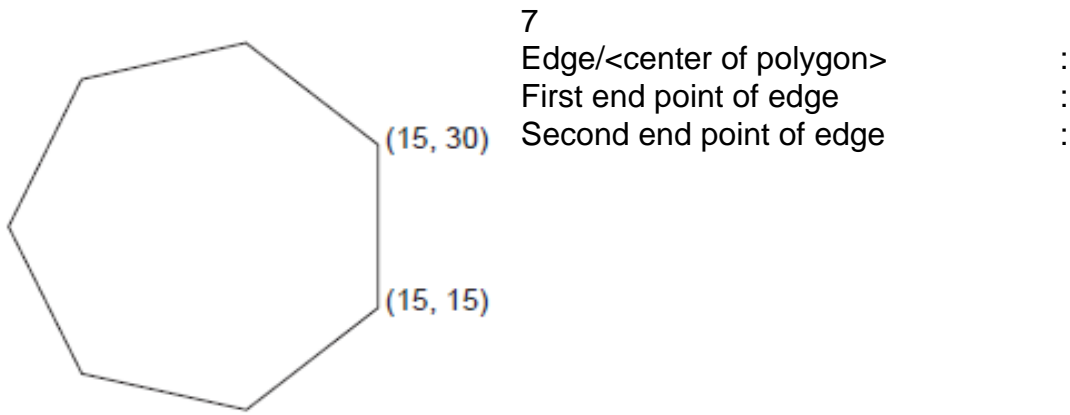

Fig. 21.7
2. With edge option, specifying the size of the edge and orientation: (Fig. 21.7)